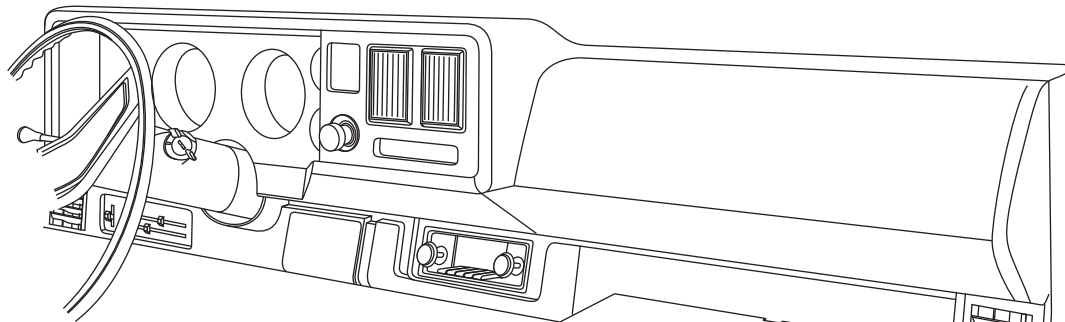

Figure 2
2. Glove box (discard, retain screws) (See Figure 2, below).